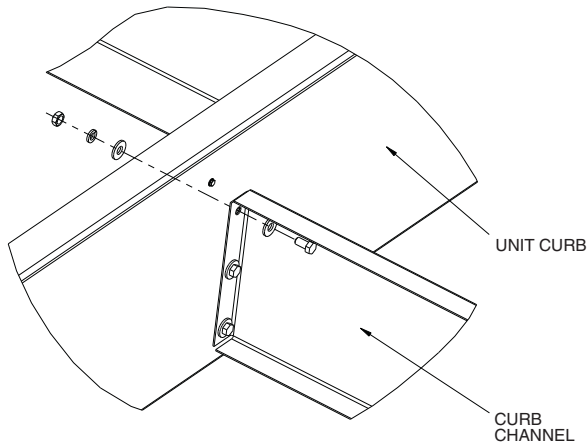

Fig. 22 — Fasten Cross Supports
3. Fasten cross supports, when required, per the drawings with supplied screws as shown in Fig. 22.